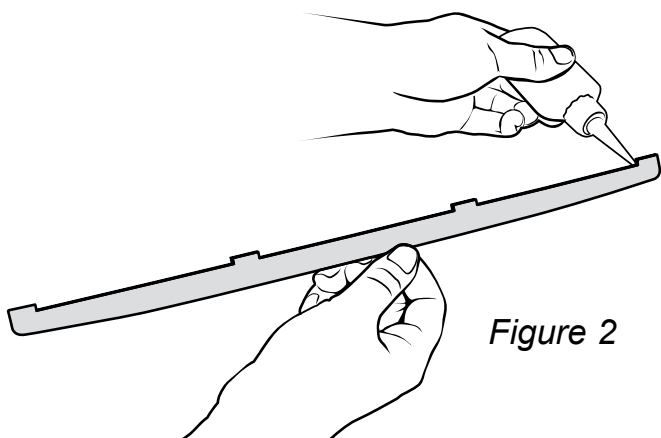
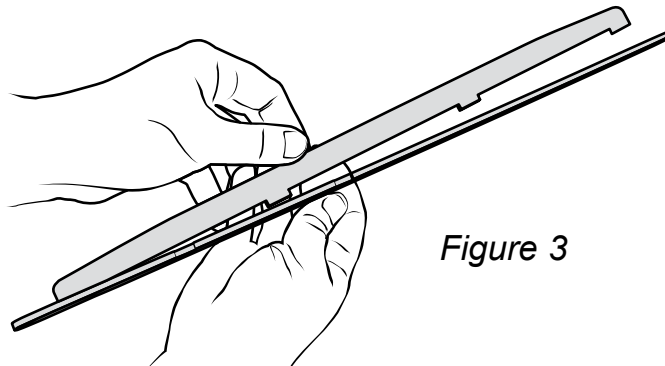

Figure 2
Figure 3
2. Select one of the side rails (Part 1) and one of the side rail supports (Part 2). Apply a bead of CA glue along the slotted edge of the side rail support (Figure 2) and insert it into the slots on the side rail (Figure 3 on next page).